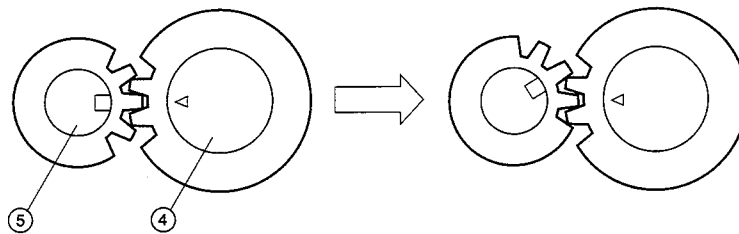

Figure 3-5 Column Displacement Adjustment B
1. Remove the stop ring ③, then remove the idler gear ④.
2. Turn the motor gear ⑤ one tooth, then install the idler gear ④ and the stop ring ③. This operation changes the relative the positions of the idler gear ④ and the motor gear ⑤ (the relation between the Δ on the idler gear and the \square on the motor gear) as Figure 3-5 shows.